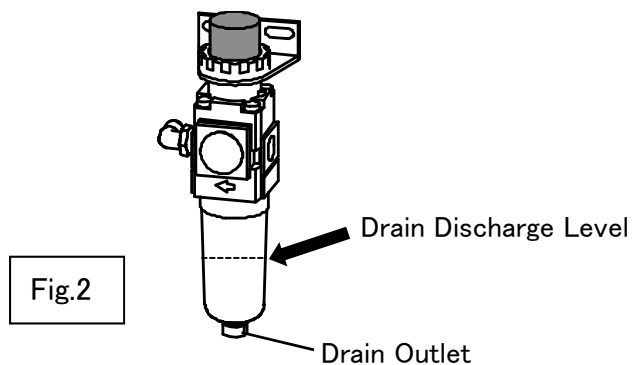

Fig.2
2. Regulator/Mist Separator: Fig.2